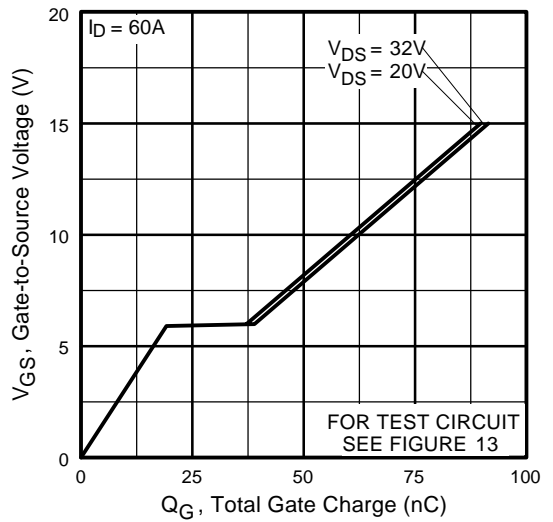

Fig 6. Typical Gate Charge Vs. Gate-to-Source Voltage
| Q _{gd} | Gate-to-Drain ("Miller") Charge | — | — | 30 | | V _{GS} = 10V, See Fig. 6 and 13 ^{④⑤} |